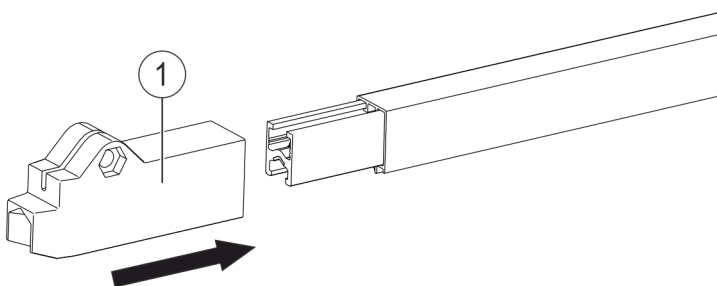
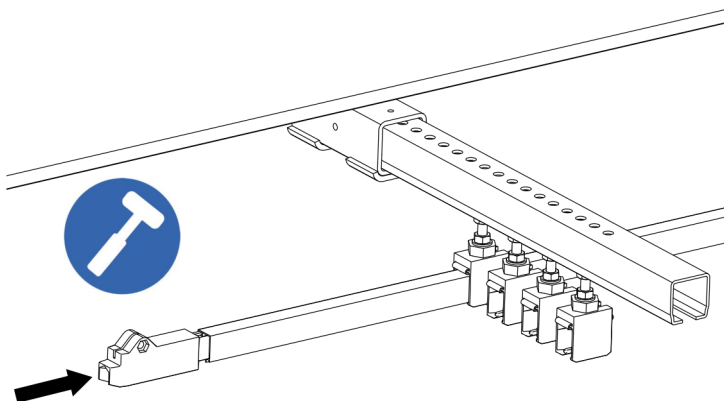

Fig. 105: Slide the end cap onto the end of the conductor rail
Fig. 106: Tap the end cap onto the end of the conductor rail
- Tap the end cap (Pos. 1) onto the end of the conductor rail with careful and light mallet taps (see Fig. 105, Fig. 106 and Fig. 107).